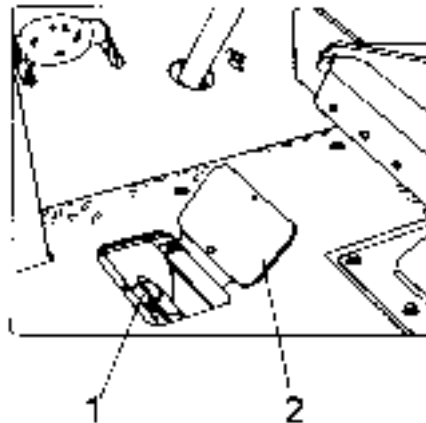

Fig. 5.7. Adding Fluid Into Master Brake Cylinder
If the sight gauge is only partially filled or shows no fluid, lift the inspection door (2, Fig. 5.7) in the floorboard just to the left of the operator’s seat. Clean filter cap (2) before removing it to prevent foreign matter from falling into the master cylinder housing. Undo the securing fasteners and remove the filter cap (1, Fig. 5.7) and add fluid. The correct fluid level is 6 [mm] from the top edge of the master cylinder. Reinstall the filler cap.